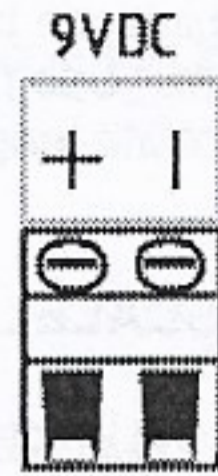

Fig. 6: Power Terminal
2. Run the power cable through the strain-relief and wire to the **9VDC** Terminal. See Fig. 6 & table below:
3. Run an appropriate power cable through the strain-relief and wire the indicator power to the **9VDC** Terminal. See Fig. 6 & table below: